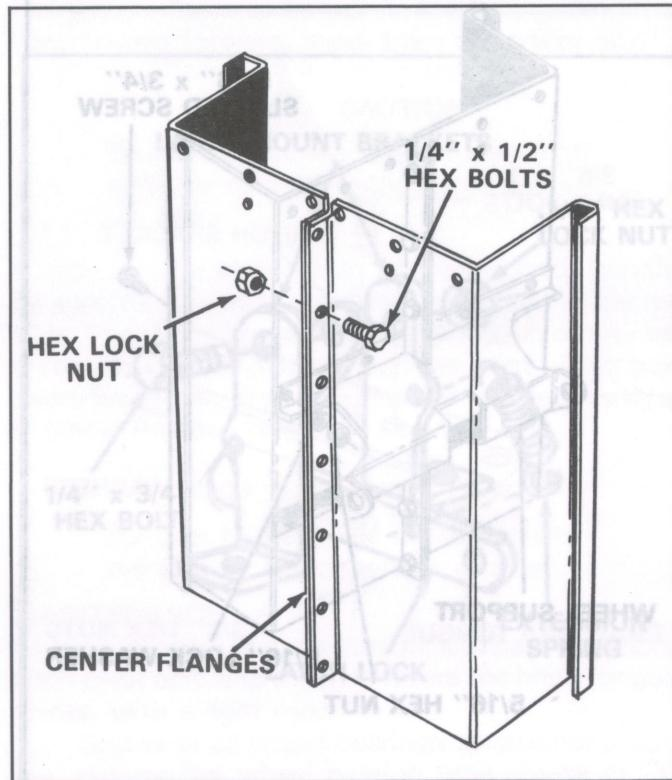

FIGURE 2
2. Position cart body halves upright on a smooth level surface, as shown in figure 2.
- Start $1/4''$ x $1/2''$ hex bolts and $1/4''$ hex lock nuts through flanges, only make finger tight until all six (6) bolts are in place. See figure 2. **Tighten all six (6) bolts.**